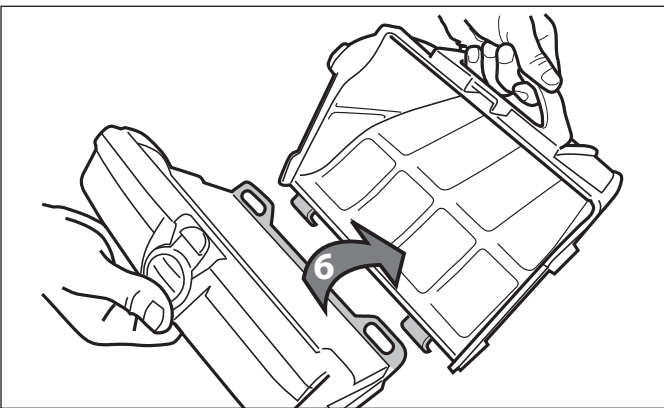

Figure 24. Remove Filter Canister
8. Separate the filter canister from the filter support (6), as shown in Figure 24.